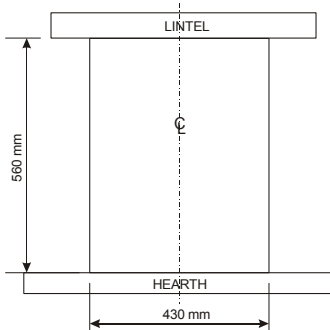

Figure 49 – Recessed Firebox Template
2. Above the hearth level draw a rectangle to the dimensions of the recess as detailed in **Figure 49**. Note that a lintel may be required above the recess of the fire to support the inner wall. If in doubt seek expert building advice.